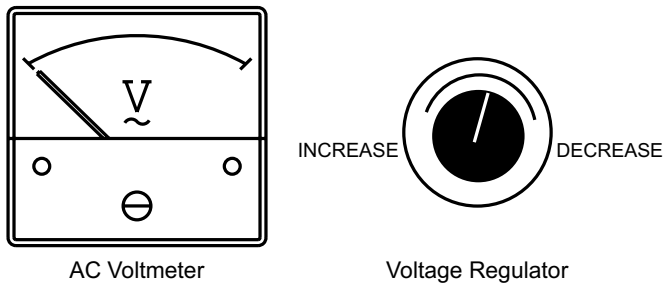

Figure 9. Voltage Regulator Knob and AC Voltmeter
- Adjust the Voltage Regulator Knob to 120VAC. Check the AC voltmeter for the correct reading. See Figure 9.